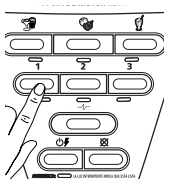

Fig. 25
1. Press the speed 1 button to run the product at a low speed (Fig. 25).